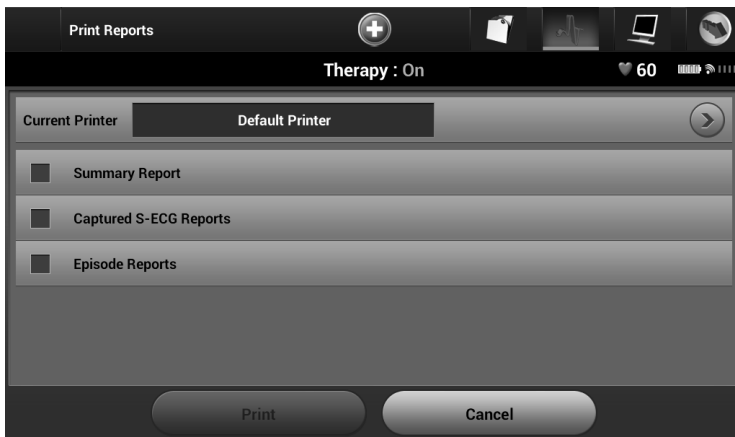

Figure 36: *Selecting Captured S-ECG Reports for printing*
1. Select the Captured S-ECG Report button from the Print Reports pick list screen. A list of the captured S-ECG strips is displayed. Select the button next to the Captured S-ECG(s) to be printed. A checkmark appears next to the selected Captured S-ECG (Figure 36).